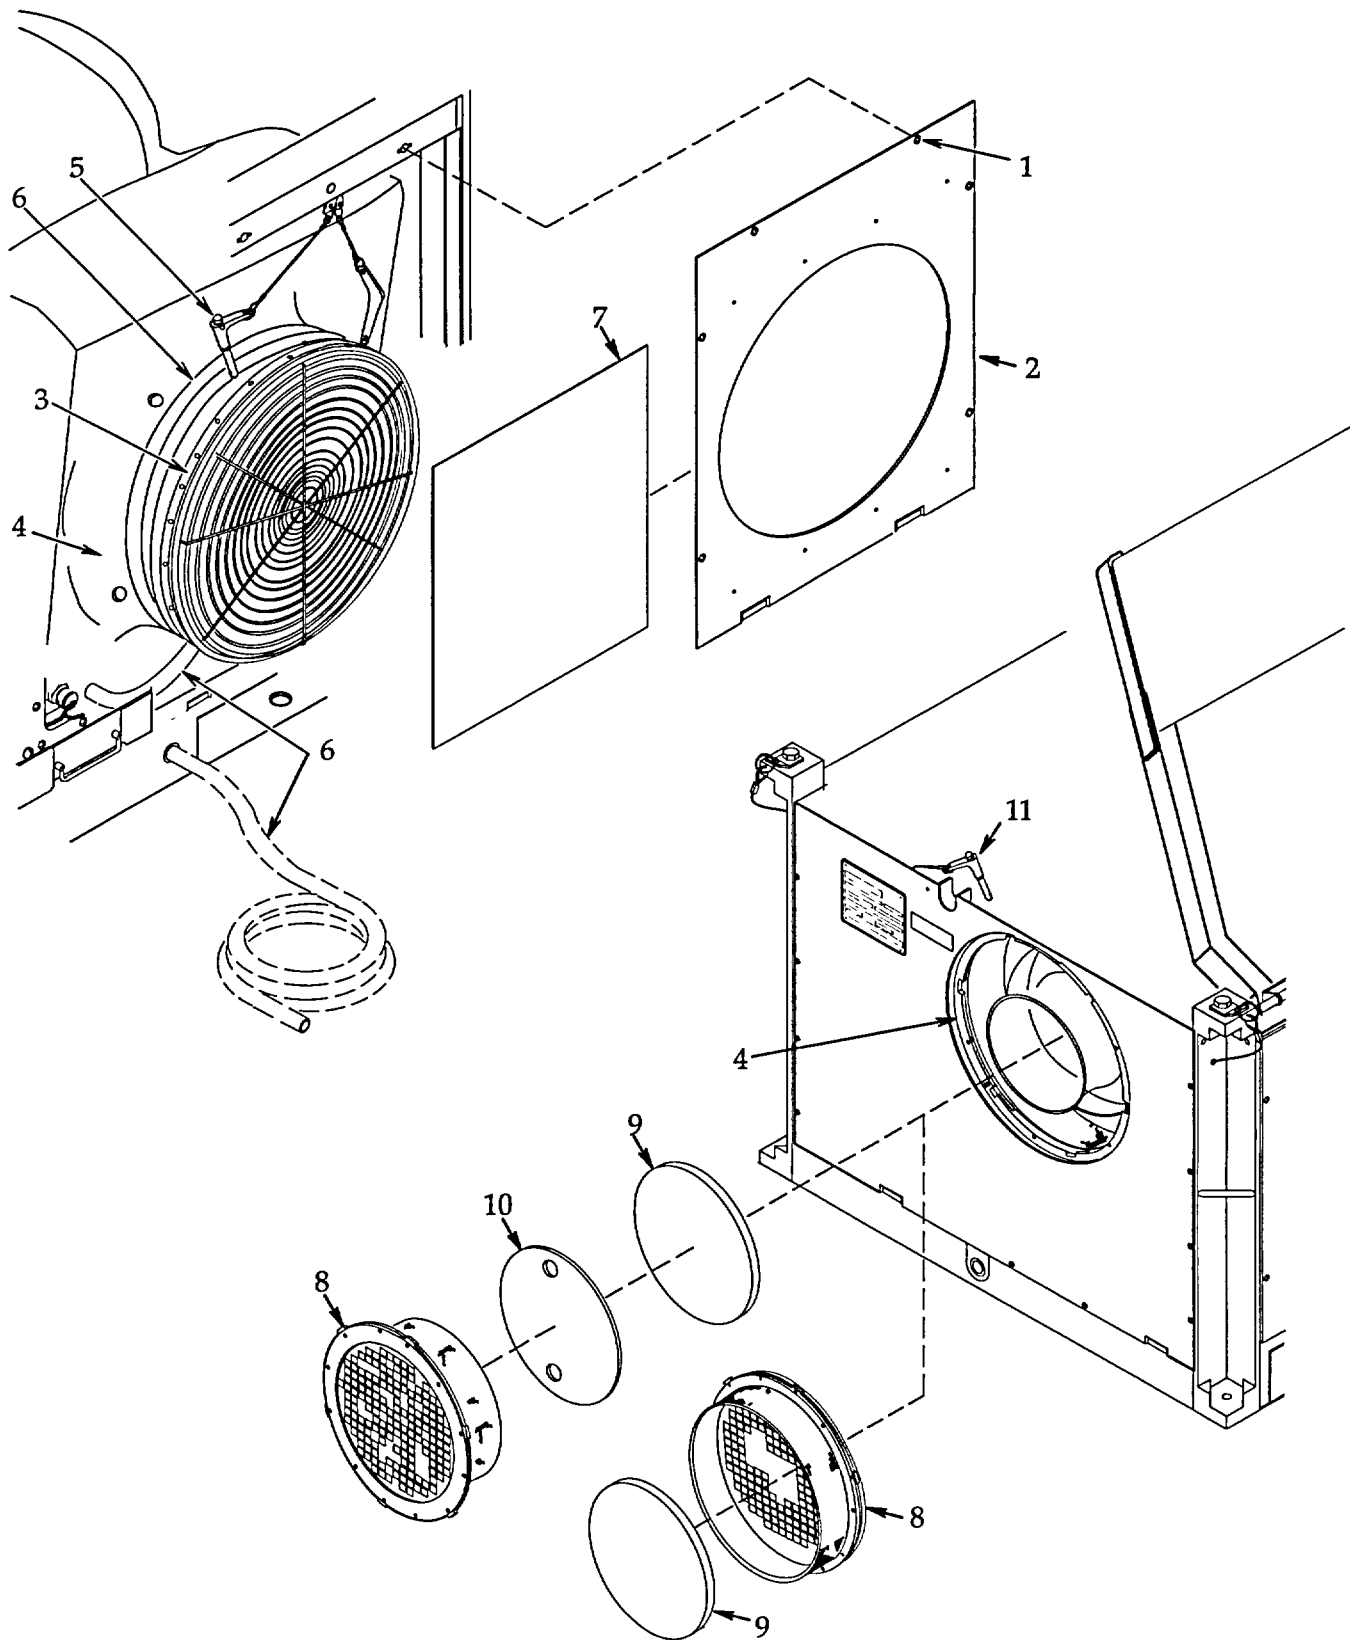

Figure 4-58. Shipping Covers and Condensate Drain Hose.
4.59 SECURE CONDENSATE DRAIN HOSE AND INSTALL SHIPPING COVERS. See figure 4-58.